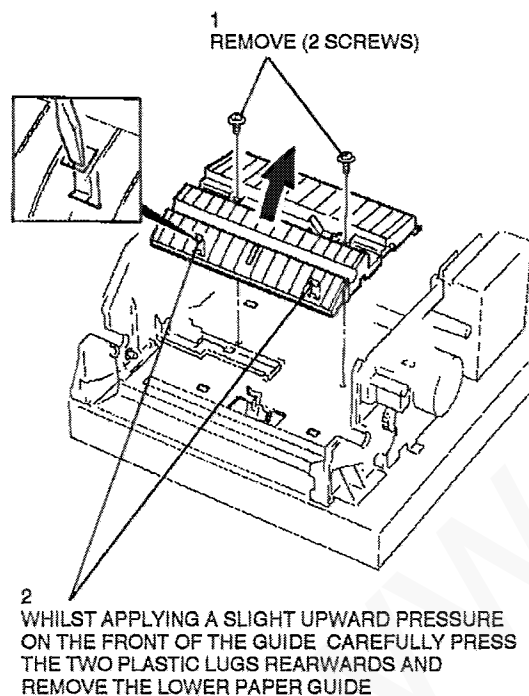

Figure 1. Lower paper guide removal
7. (Figure 1) Remove the lower paper guide.